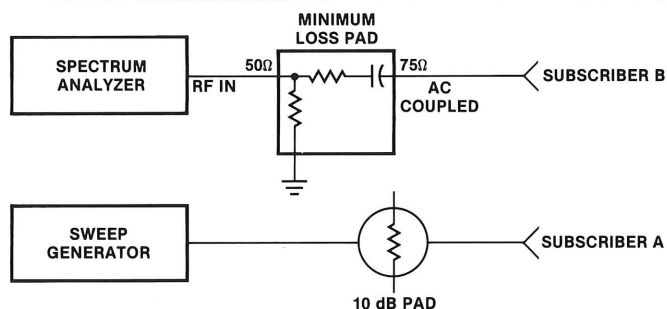

Figure 10-1. Equipment connection for subscriber isolation measurement.
1. Set up the equipment as illustrated in figure 10-1 at one location for calibration.
3. Connect (subscriber) point A to point B (figure 10-1).